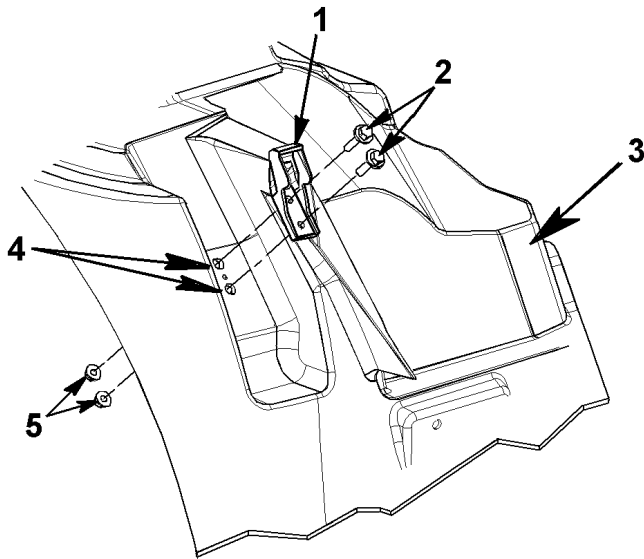

Figure 34 Lower Hood Latch
The hood latching mechanism consists of two parts. The lower lock portion of the latching mechanism is located on the fender extension assembly (Item 1, Figure 34).
1. Tilt the hood assembly forward and locate the latch clip mounting holes (Item 4, Figure 34).
3. Insert mounting bolts and flat washers through the latch clip assembly and fender assembly mounting holes (Item 2, Figure 34).